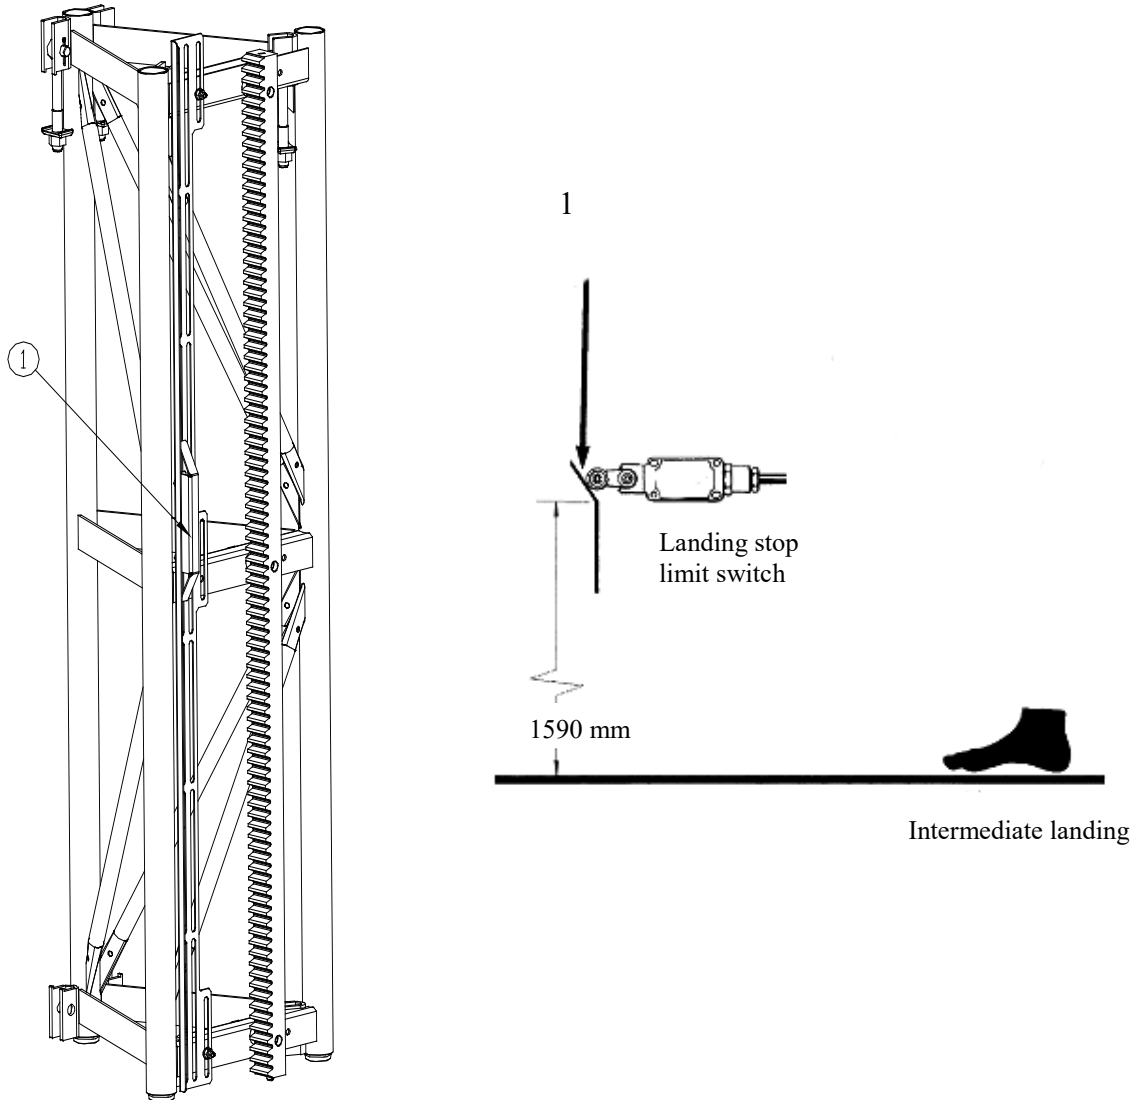

Fig.H.35 Landing cam
61. Assemble the landing cam at the landings planned of the installation on both masts in correspondence of landings (1-fig.H.35).